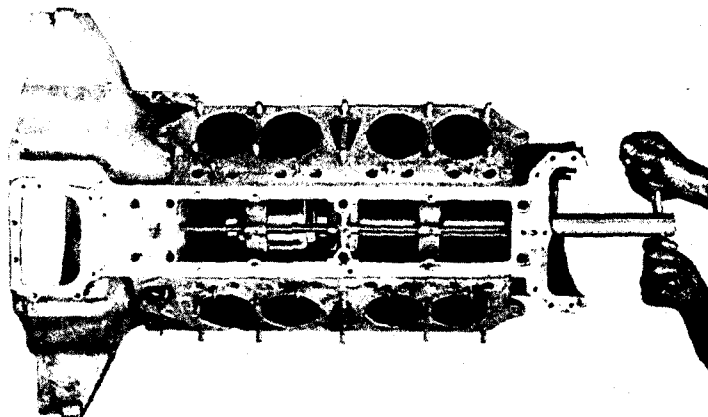

Fig. 28.—Removing Camshaft Bearing with Puller 72407
(2) To remove a camshaft bearing, remove the camshaft and place the cup with the open end against the web of the crankcase and the slot in the cup over the oil tube above the bearing, as shown in Fig. 28. (This last is not necessary on Type 61 and V-63 cars, as on these types the oil passes through the hollow camshaft and there is no oil tube.)